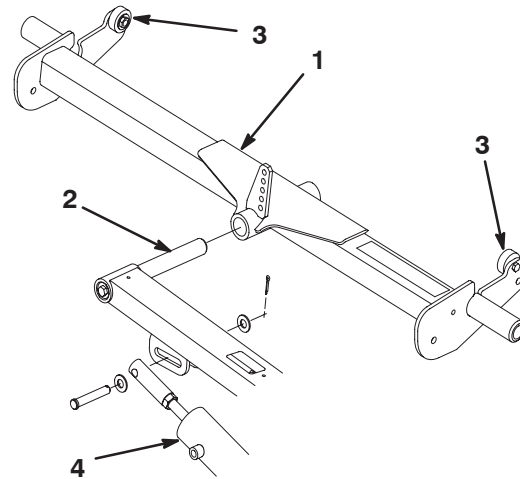

Figure 2
1. Slide the rear carrier frame onto the rear lift arm pivot rod (Fig. 2). **Do not** install the carrier frame to the cutting unit at this time.
3. Press down on one end of the carrier frame until the up stop on the opposite end contacts the underside of the foot step (Fig. 2). The distance between the up stop and the underside of the foot step, on the end pressed down, should be approximately 1/4 in. (6 mm). If the distance is not 1/4 in. (6 mm), an adjustment to the lift cylinder is required. If the distance is correct, remove the carrier frame and proceed with the setup instructions.
- A. Remove the clevis pin securing the rod end of the lift cylinder to the lift arm (Fig. 2).
- D. Tighten the hex nut and connect the cylinder rod end to the lift arm (Fig. 2).